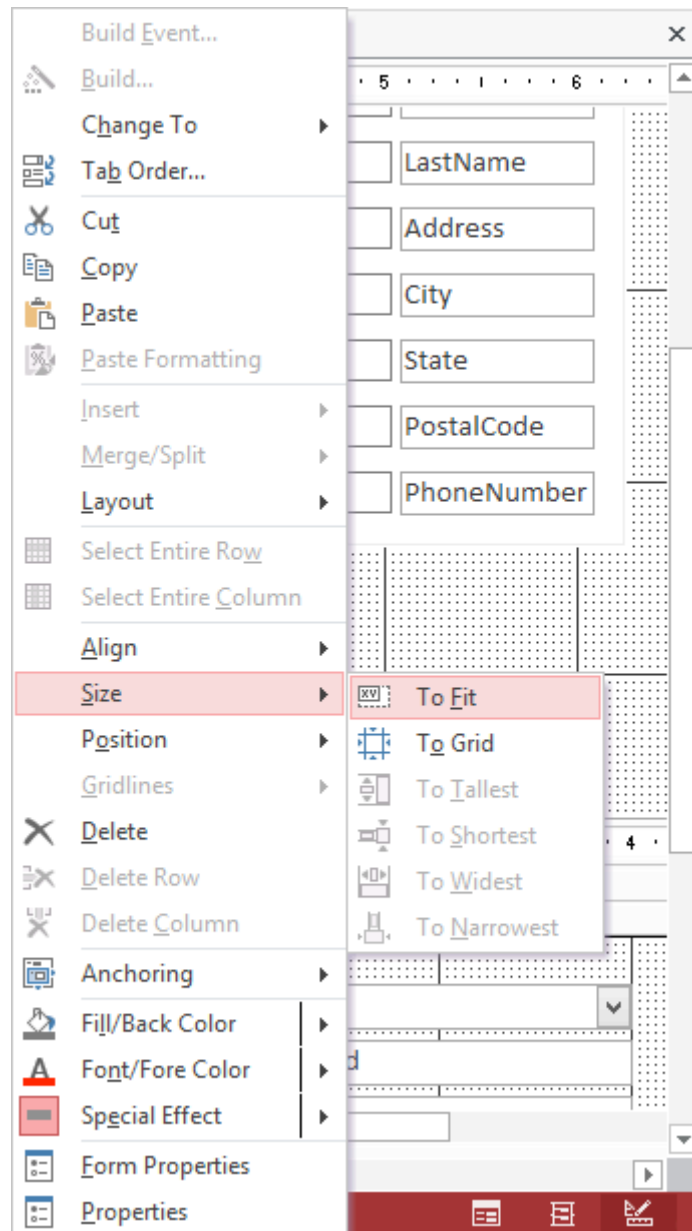

Figure 29: Drop Down Menu Showing Size Options
2. Type Caption in Label: Select the new label and type inside “Total Parts Charge”. Next, select the label again, click the **right** mouse button, select **Size**, and choose **To Fit** (Figure 29). Also in this menu select **Fill/Back Color** and choose the “Lightest Gray” color.